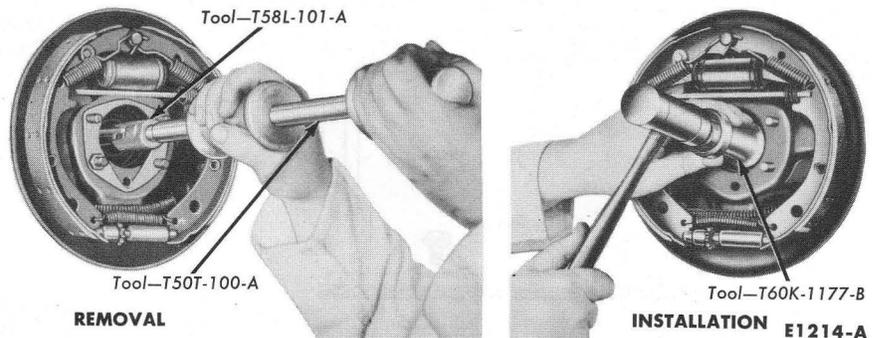

FIG. 2—Axle Shaft Seal Removal and Installation
9. If the axle shaft oil seal is to be replaced, remove and replace the seal with the tools shown in Fig. 2. **Installation without use of the proper tool will distort the seal and cause leakage.**